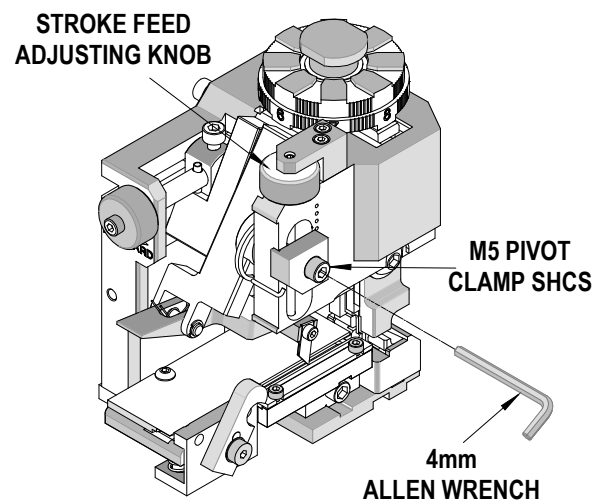

Figure 2-11A
3. Loosen the M5 pivot clamp SHCS to permit up and down movement of the hinge bushing. See Figure 2-11A.
5. To achieve the correct back stroke location, turn the stroke feed adjusting knob. To shorten the back feed stroke turn the knob counter clockwise (CCW). To lengthen the back feed stroke turn the knob clockwise (CW). See Figure 2-11A.